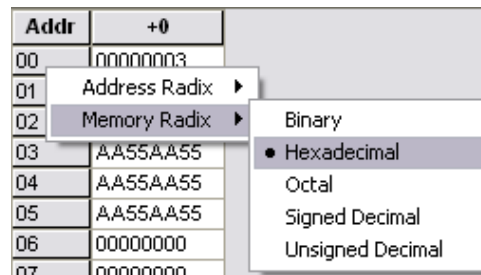

Figure 8: Change the radix of the ROM data to hexadecimal.
- Change the radix of the data to hexadecimal as shown on Figure 8.